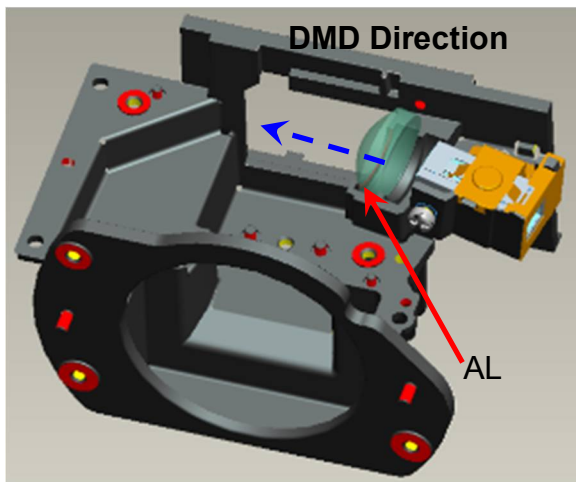

Fig. 3-1
- A. Placed “AL” on the “HSG DMD”. The “raised surface” of “AL” shall toward “DMD direction” (Fig. 3-1)